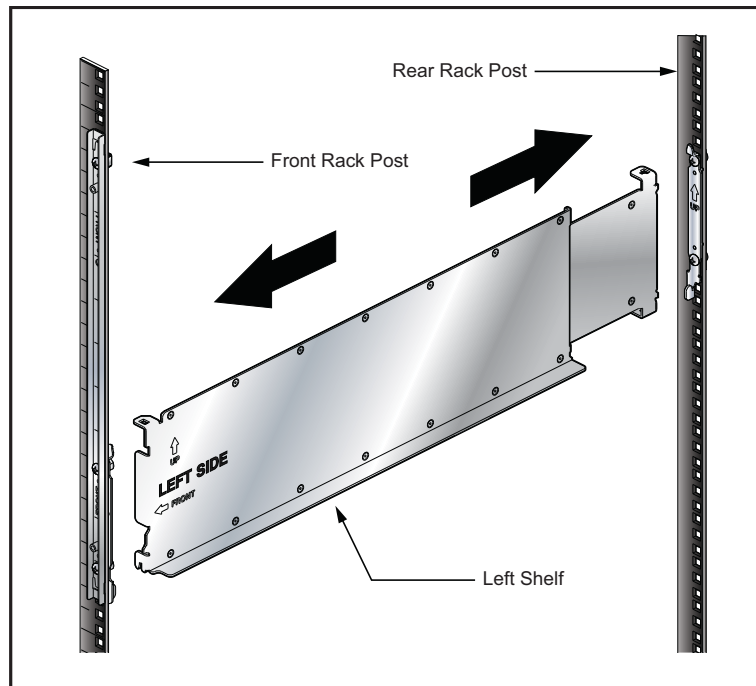

Figure 3-6: Adjusting the Left Shelf
Step 4 Adjust the left shelf by sliding its components to fit between the front left and front rear rack posts, as shown in Figure 3-6 on page 13.